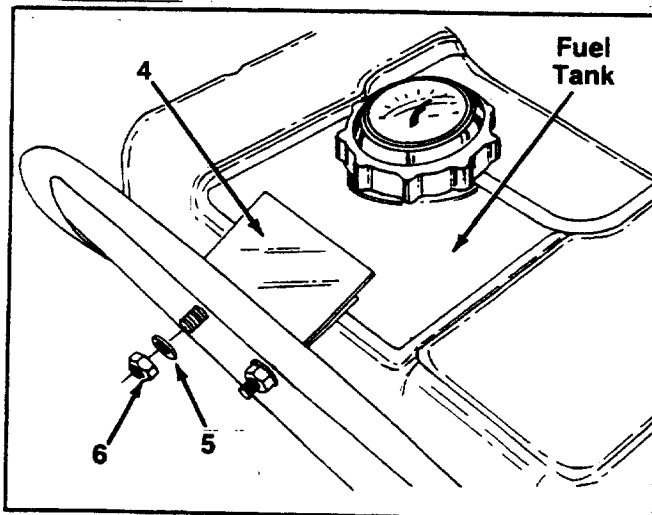

FIGURE 3.
4. Remove the fuel tank, by removing two hex nuts and flat washers from fuel tank clamp. See figure 3.